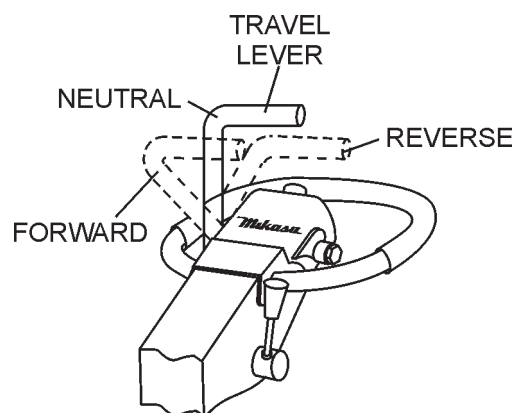

Figure 17. Travel Lever
3. To make the compactor move in the forward direction push the travel lever (Figure 17) forward.
4. To make the compactor move in the reverse direction pull the travel lever (Figure 17) backwards.